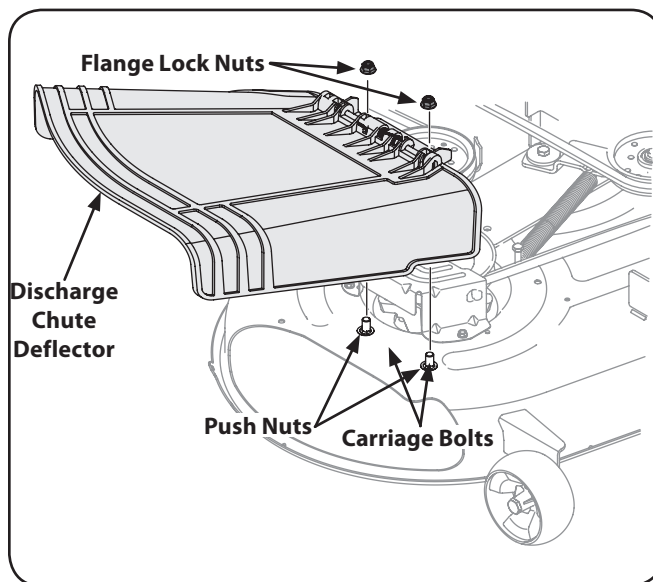

Figure 3-9
3. Install the discharge chute deflector using the carriage bolts, push nuts and flange lock nuts as shown in Fig. 3-9 and securely tighten the hardware.